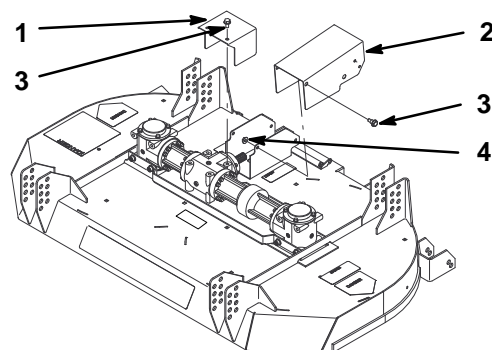

Figure 32
2. Remove two shields that cover gearbox and PTO shaft (Fig. 32).